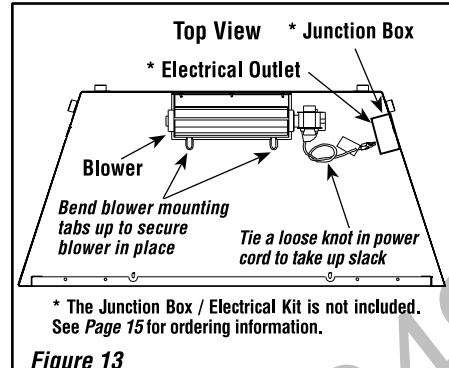

Figure 13
Step 5. Plug power cord into the electrical outlet as illustrated in **Figure 13**.